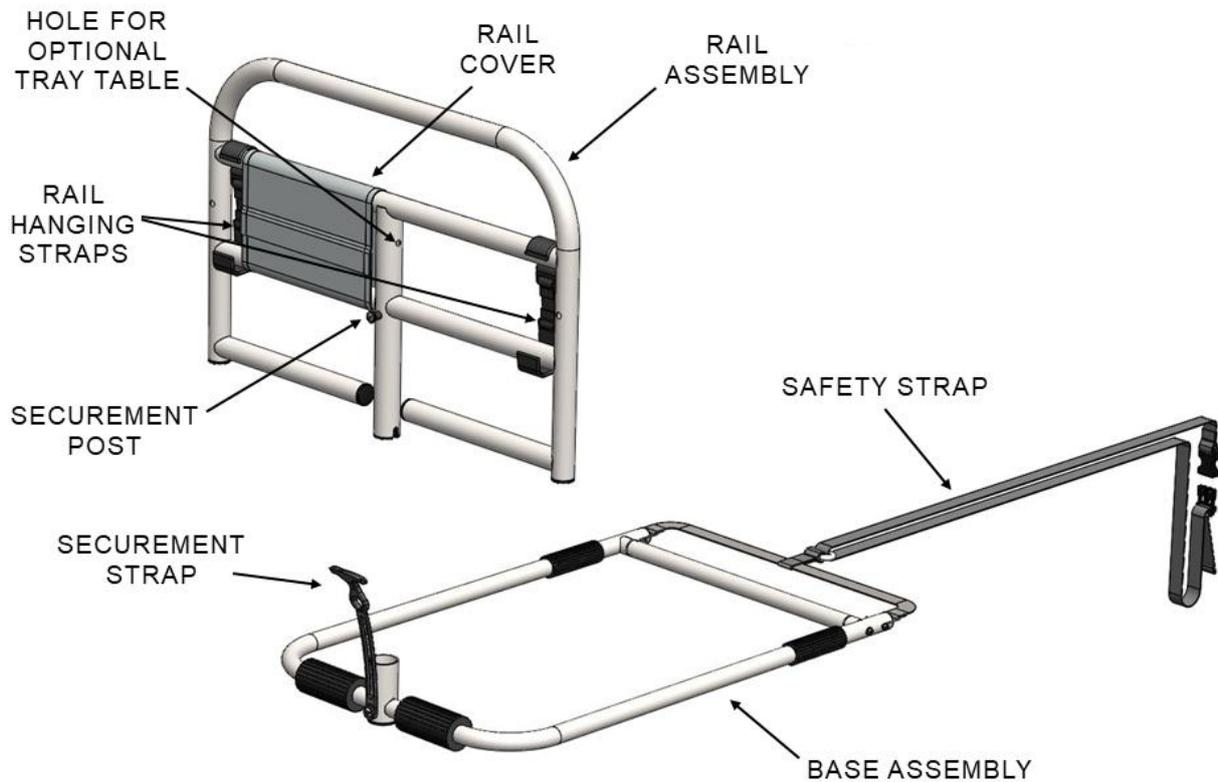

FIGURE 1
1. Remove all components from the box and verify all parts are included as shown in Figure 1. Note that 8930 does not include RAIL HANGING STRAPS.